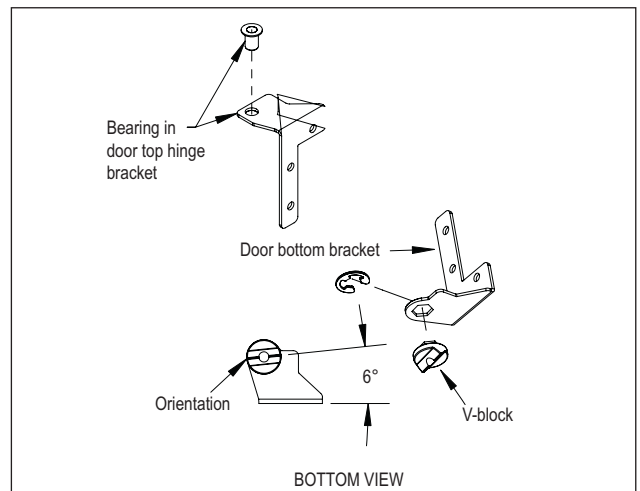

Figure 8. Bearing and V-Block
8. Insert bearing into door top hinge bracket (Figure 8).
9. Insert V-block into door bottom hinge bracket and attach with e-clip (Figure 8). Note the orientation of the V-block.